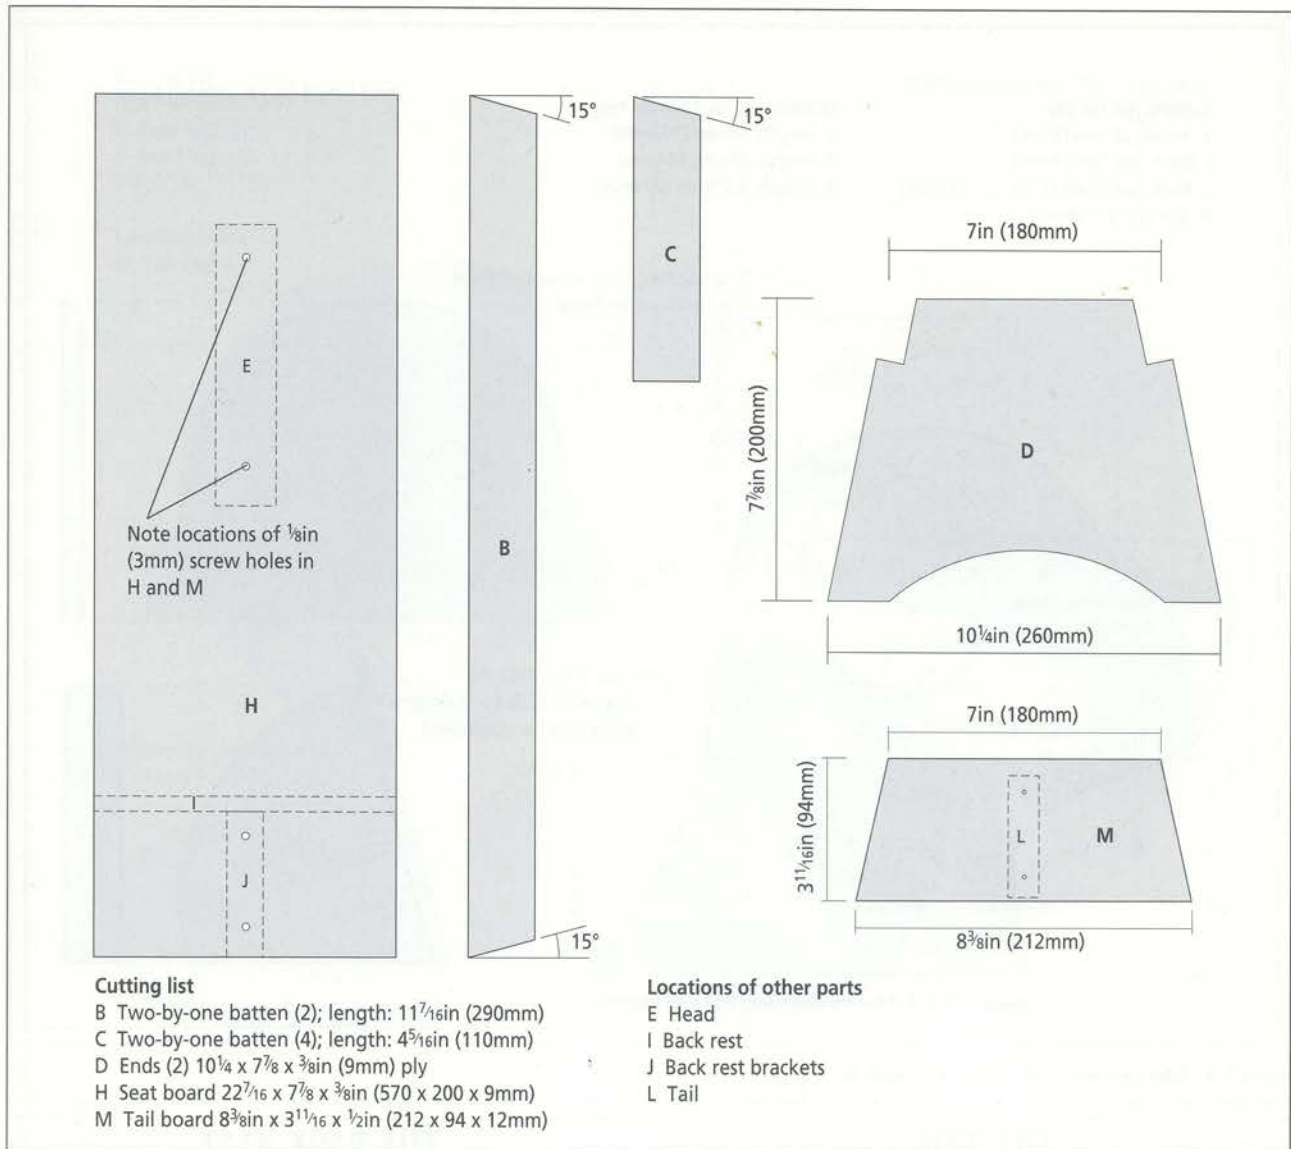
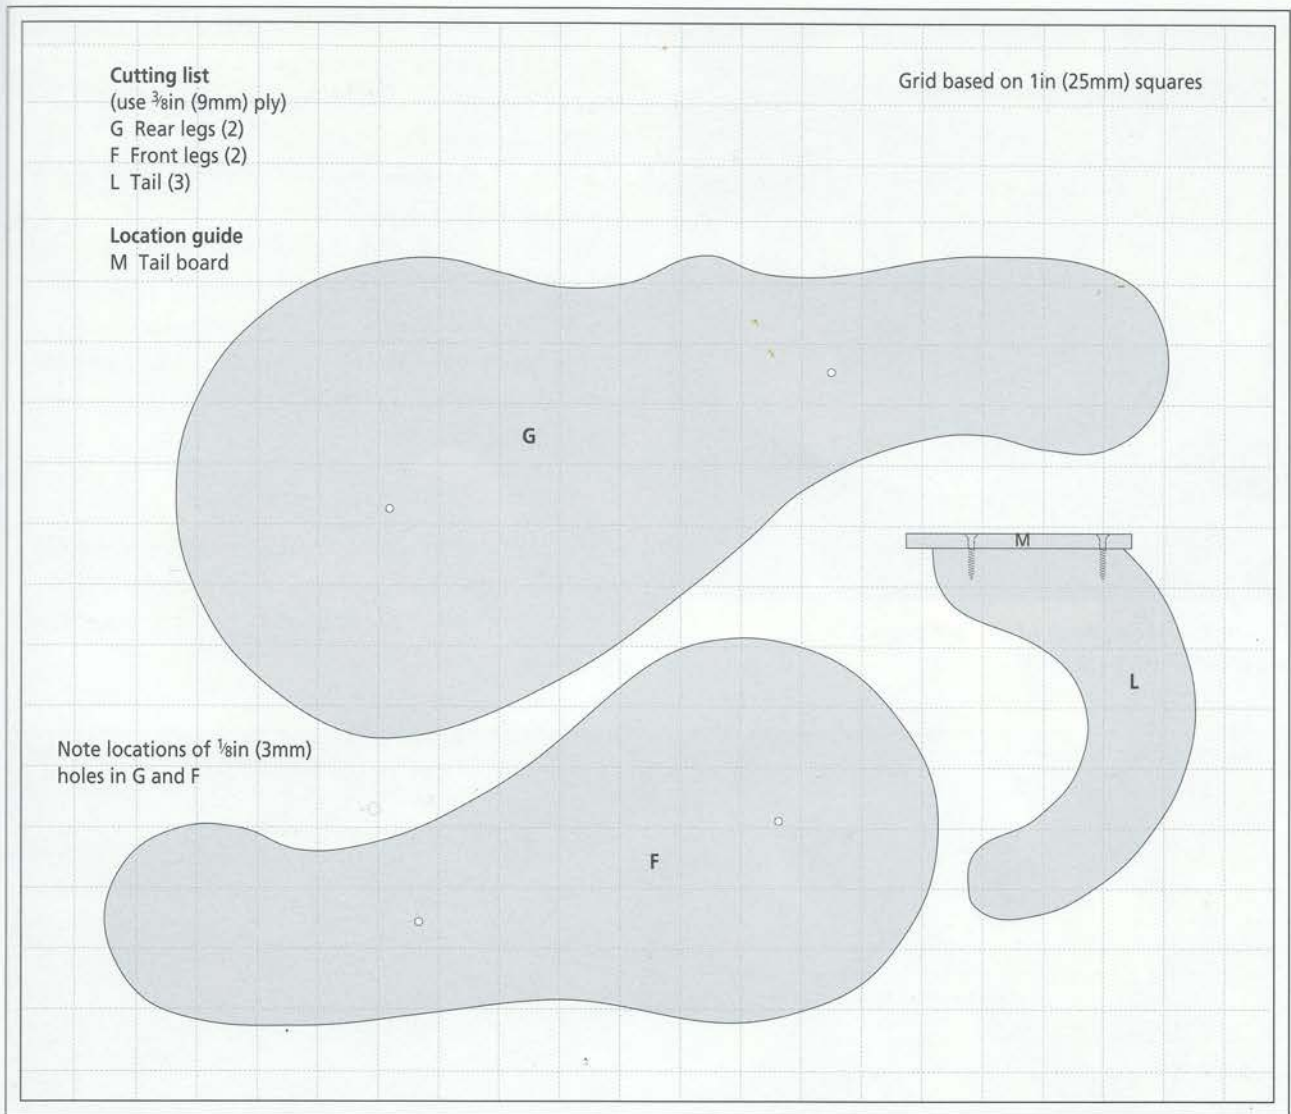

Fig 20.2 The dimensions of B, C, D, H and M. The positions of the head and back rest assemblies are shown on H.
Fig 20.4 The dimensions of F, G and L. Part L is shown attached to M by two screws.
Saw the seat board (H) to the dimensions shown in Fig 20.2. Drill the screw holes for attaching the head and back-rest assemblies. Countersink these holes from the
Cut to shape the three pieces of $\frac{1}{2}$ in (12mm) ply that will form the tail (see Fig 20.4). Glue and pin the three pieces (L) together (see Fig 20.7). Saw M to the dimensions shown in Fig 20.2. Drill the two screw holes through which the tail will be attached to M. When the glue has dried on the L stack, shape and sand the tail to a rounded section (see Fig 20.8). Then glue and screw L to M. Fig 20.8 shows the completed tail assembly.